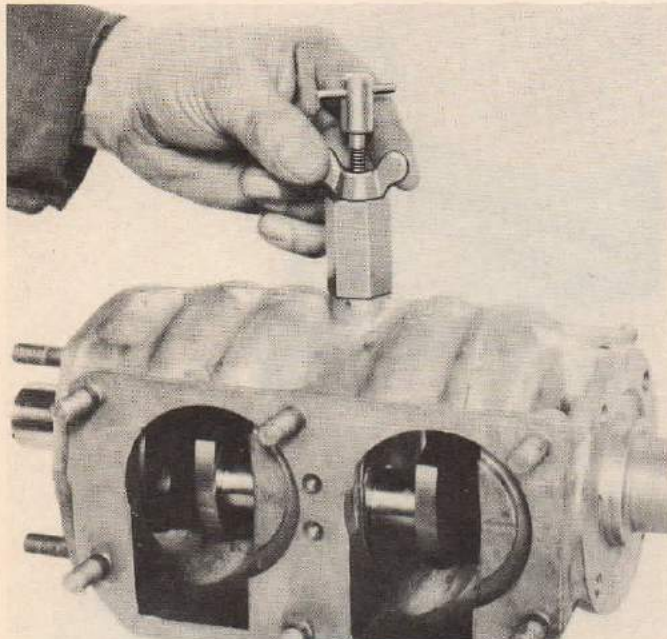

Figure 57
**SPEEDIFOUR**—The procedure is exactly as outlined for the Lightfour except for the center bearing. This bearing on the Speedifour is held in place by one large and four small dowel pins which are hollow and threaded on the inside. These are removed by inserting threaded tool (see Figure 57) in pins and pulling them out.